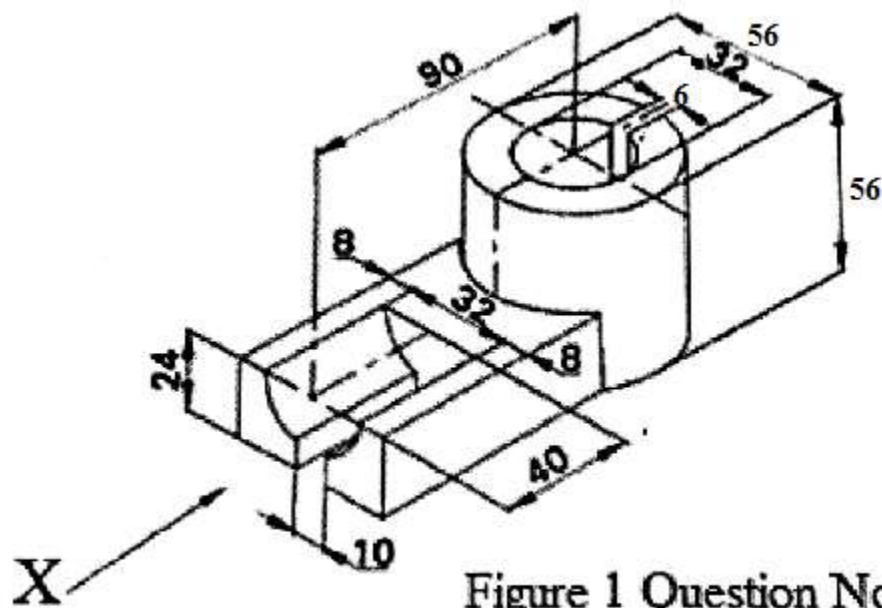

Figure 1 Question No. 4
- Q.4 Figure 1 shows an isometric view of an object. Draw front view, top view and a sectional side view from 15